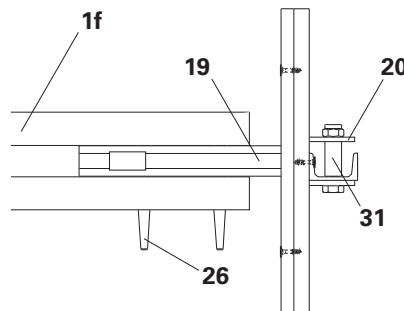

Fig. B2.02a
6. Bolt Angle Connector RCS/SRU (19) onto the Steel Waler SRU U120 (1f) using 1x fitting pin Ø 21 mm (26). (Fig. B2.02a)
7. Attach Guardrail Post RCS/SRU 184 (20) to the Angle Connector RCS/SRU (19) with Spacer RCS 184 (31) and the 2 bolts M20. (Fig. B2.02a)